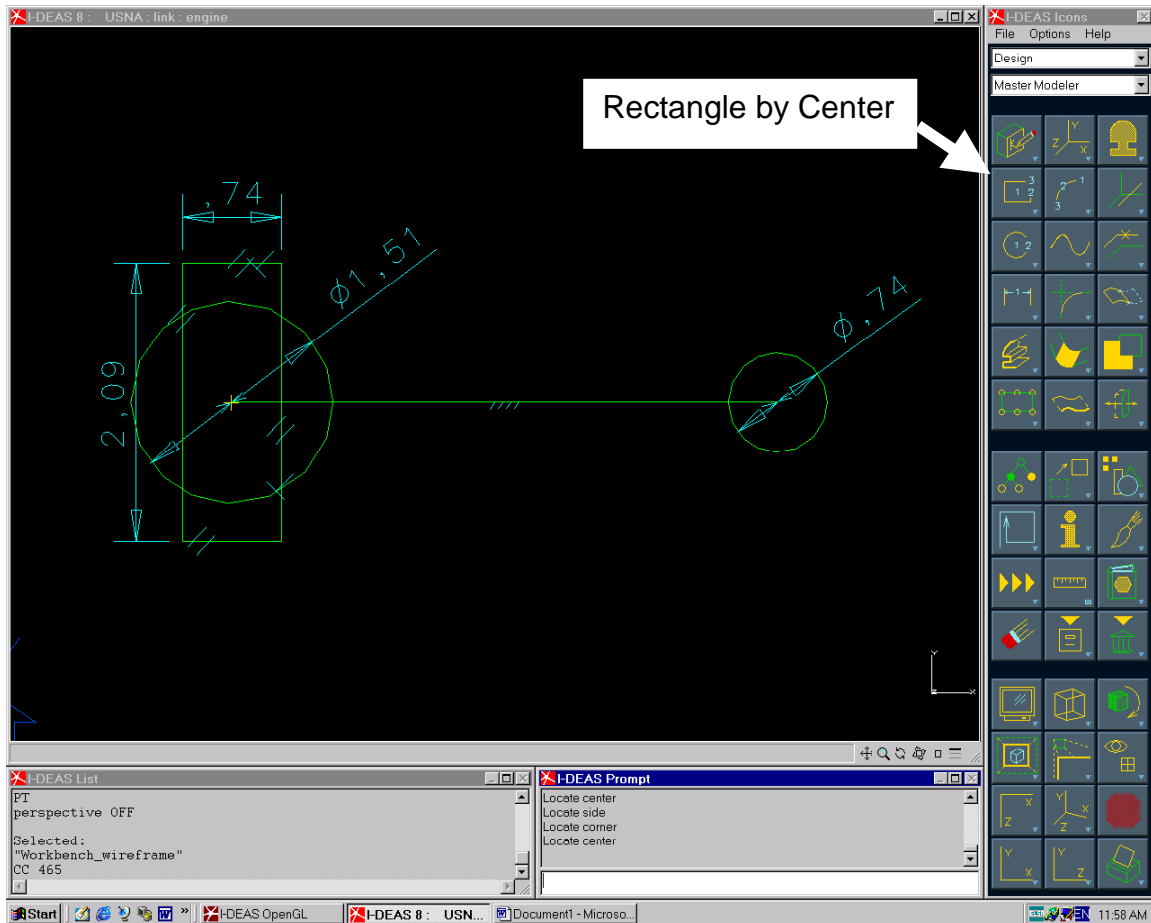

Figure 2
7. Using the Rectangle by Center method, sketch a rectangle approx. 2 in. high x 0.75 in. wide, centered on the left end of the horizontal line, as shown in Fig. 2.